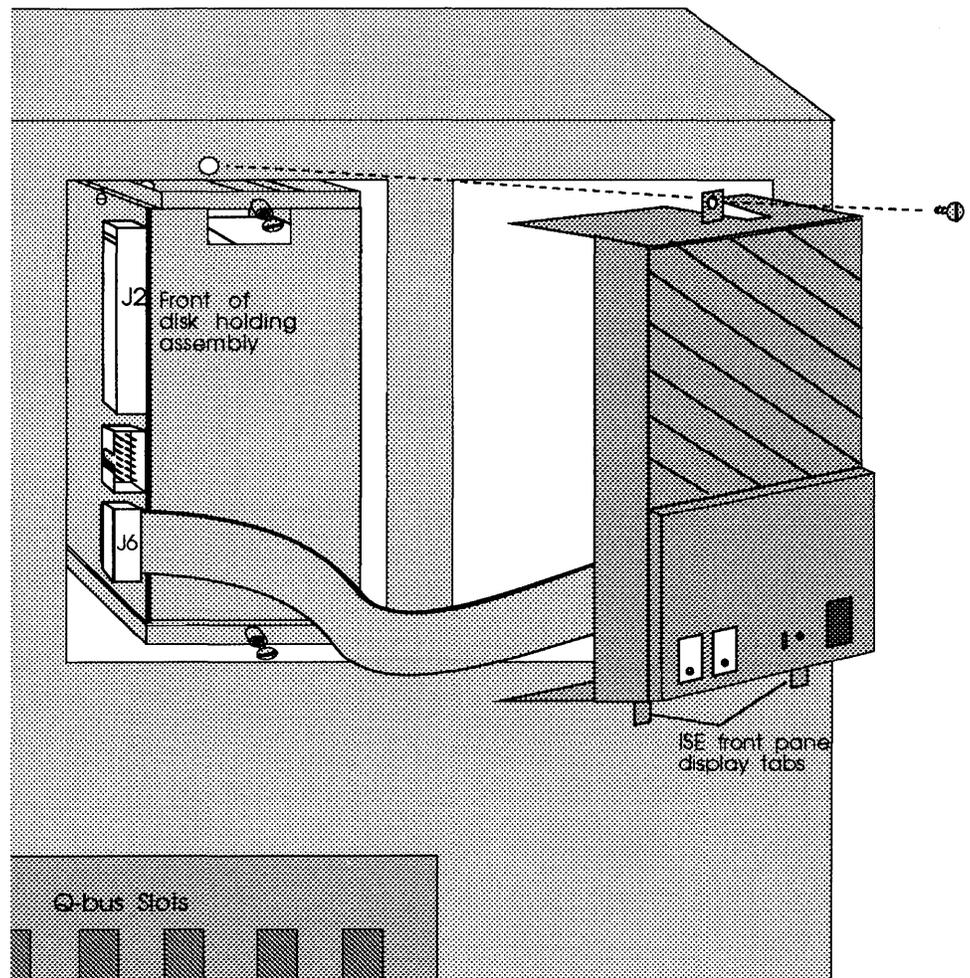

Figure 4-29: CDI-4000-SA2 ISE front panel installation
- 17 Align the back of the front panel display with the ISE assembly and slide the two tabs at the bottom of the ISE front panel display inside the system chassis; then slide the top into the system; see Figure 4-29.
- 18** Put one screw into the system chassis through the top hole in the ISE front panel display; see Figure 4-29.